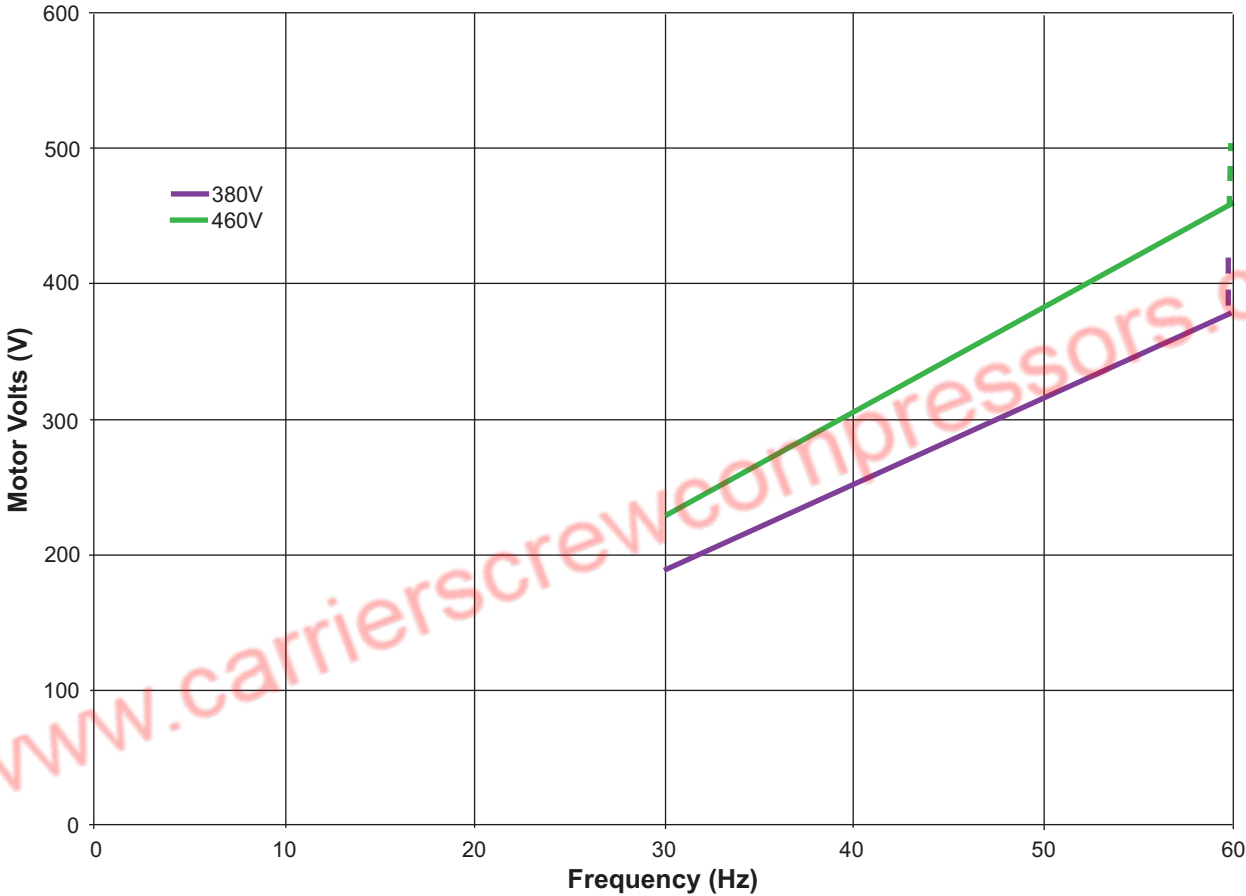

Fig. 28 — Sample Compressor Motor Voltage Curves
Figure 28 shows two sample voltage curves showing compressor motor voltage (V) versus operating speed